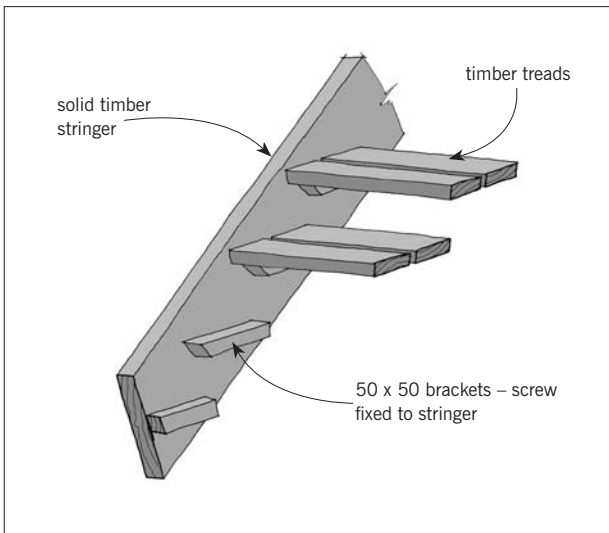

Figure 2. Simple external timber stair.
5.0.4 Open treads (as shown in Figures 2 and 3 without solid risers) are not suitable where the stair may be used or accessed by the public, e.g the front steps to a residence.